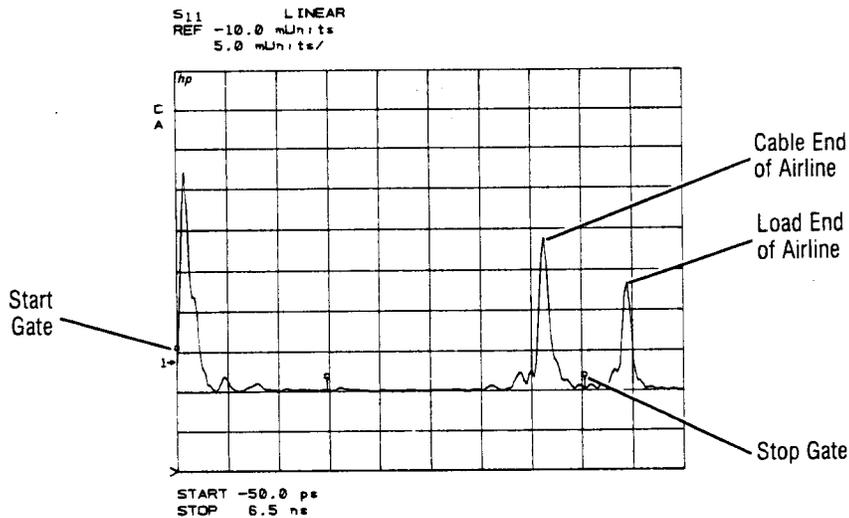

Figure 2. Location of Gates and Airline
10. Using the RPG, adjust the stop gate to the center of the airline (see *Figure 2*).